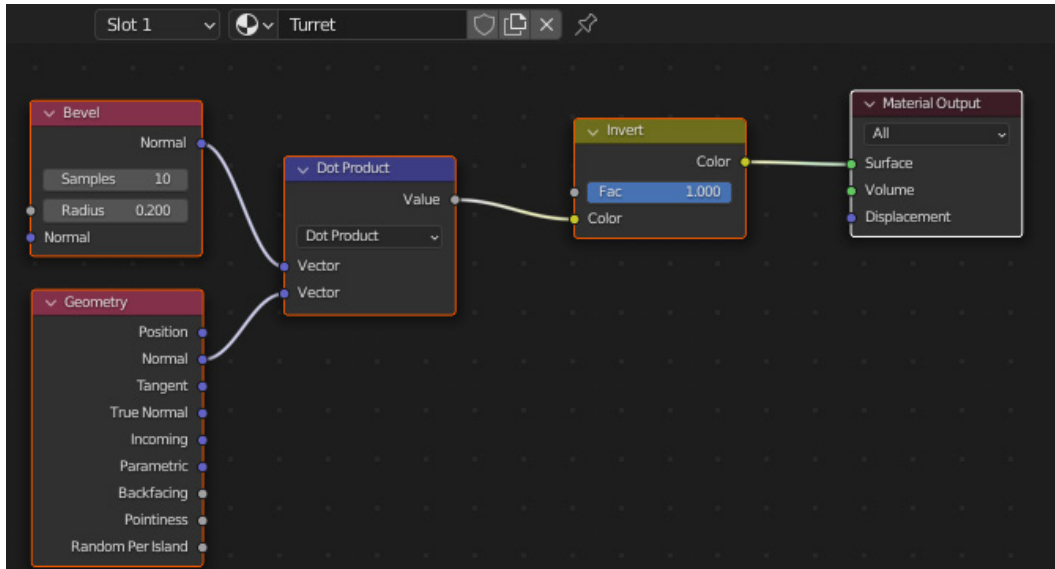

Figure 12.5 – Edge mask nodes
5. Copy the nodes from *Figure 12.5* to generate an Edge Mask. Delete all the other nodes: